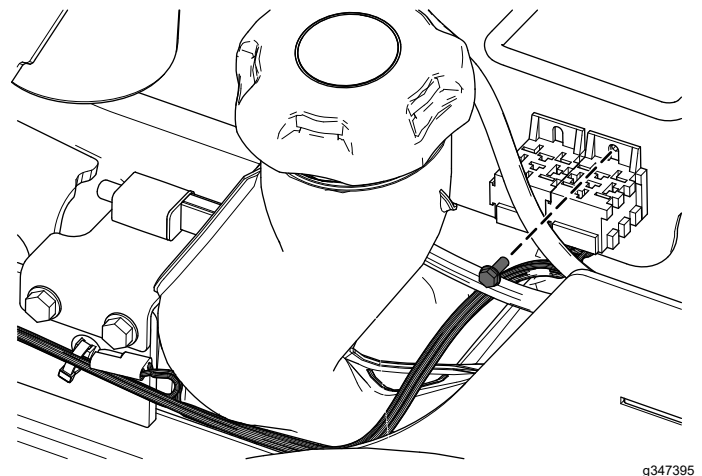

Figure 20
4. Secure the wire harness near the relays using the tapite screw (Figure 20).